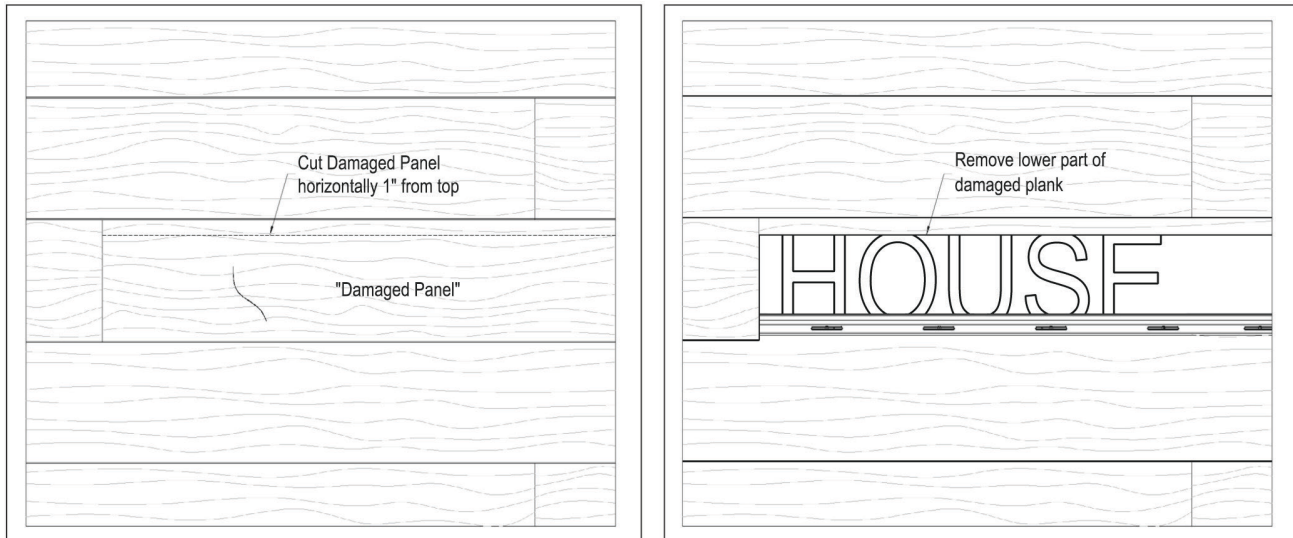

Figure 10
- Carefully cut the damaged plank horizontally, 1" from the top and remove the lower section (Figure 10).